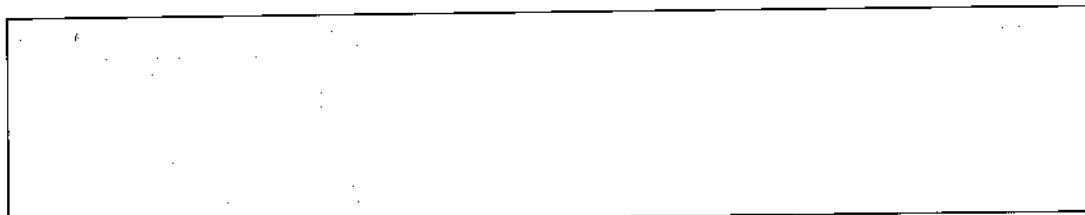
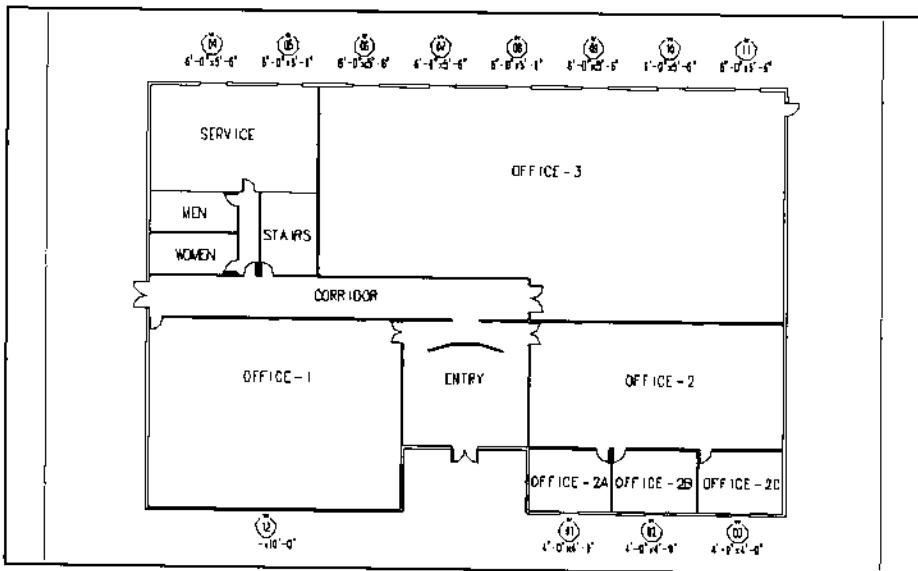

Figure 18.
Figure 19.
1. Figure 18 is a window schedule indicating the window number, size, and room name for all windows to be placed into the plan. Figure 19 contains enlarged window tag symbols that show the window numbers and sizes for this exercise.